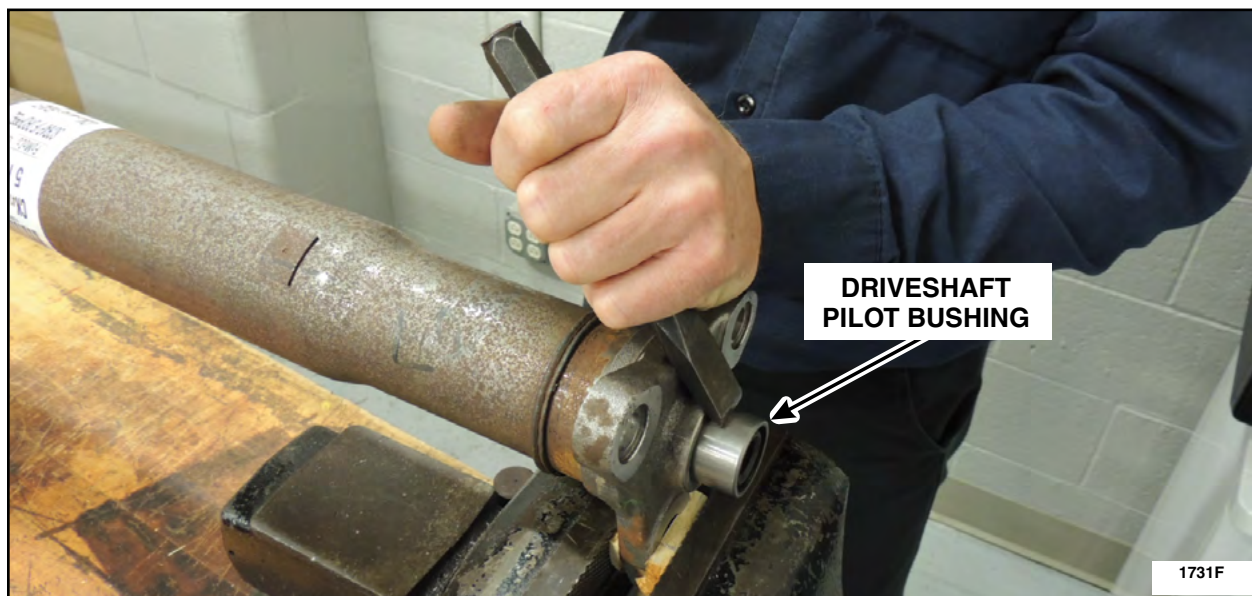

FIGURE 3
2. Using a hammer and chisel with a sharp edge, remove and discard the driveshaft pilot bushing. See Figure 3.